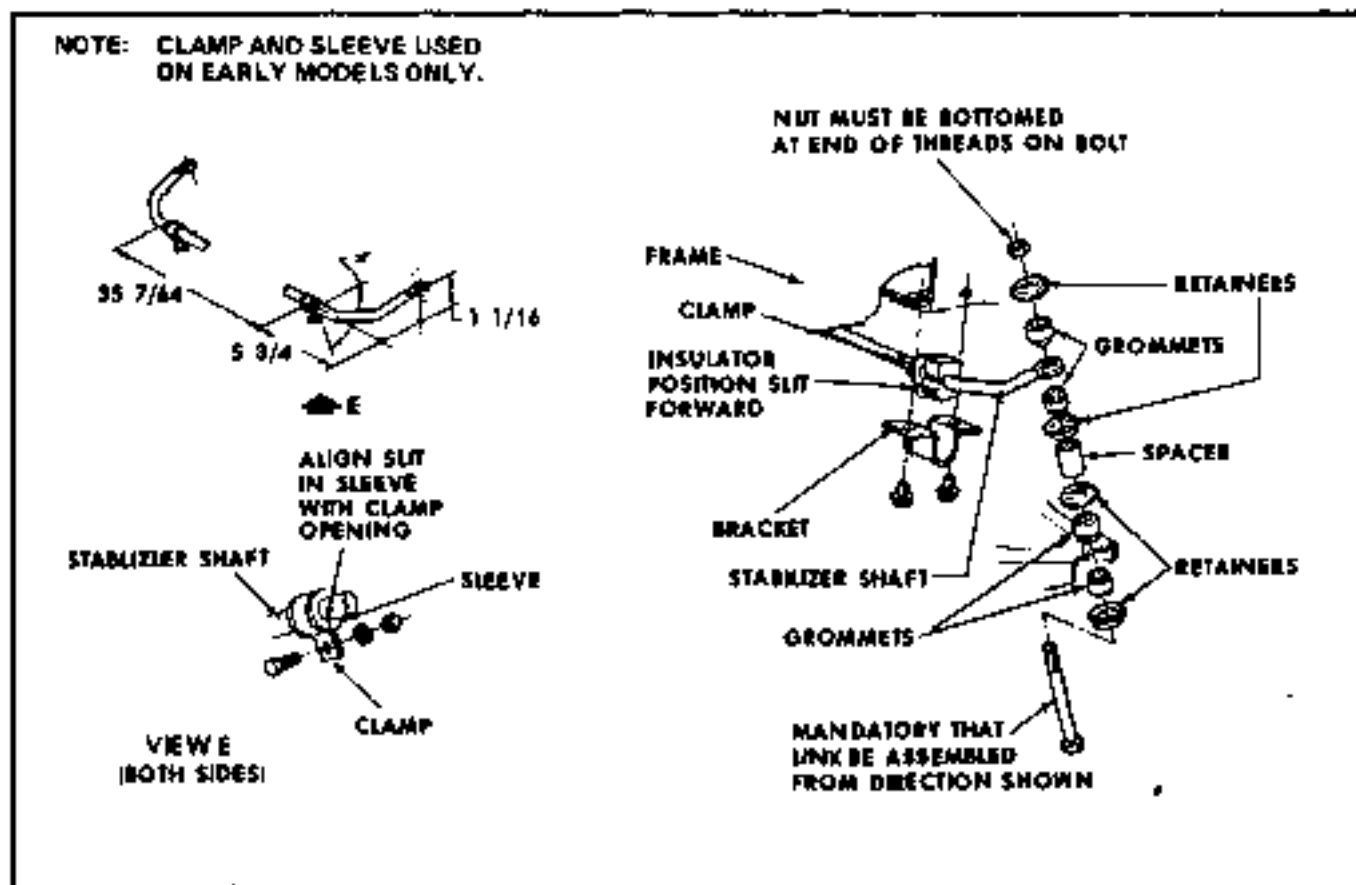

Fig. 3-9 Stabilizer Shaft Installation - Firebird
3. Remove screws holding two stabilizer shaft brackets to frame and remove two brackets and bushings from shaft. Remove two clamps and sleeves (Fig. 3-9) from shaft on Firebird (early models only).